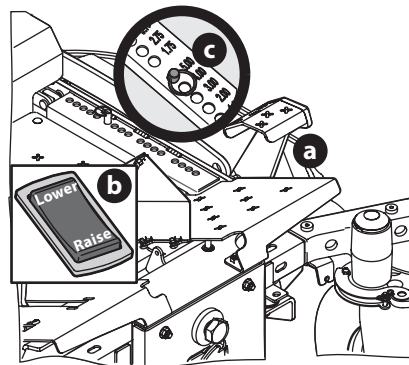

Figure 27
1. Use the deck lift pedal (a) or push down on the back of the electric deck lift switch (b) to raise the deck to its highest position, place the clevis pin (c) attached to the mower into the desired index hole on the deck height index, then slowly release the deck lift pedal (a) or slowly lower the deck by pressing down on the front of the electric deck lift switch (b) (Figure 27).